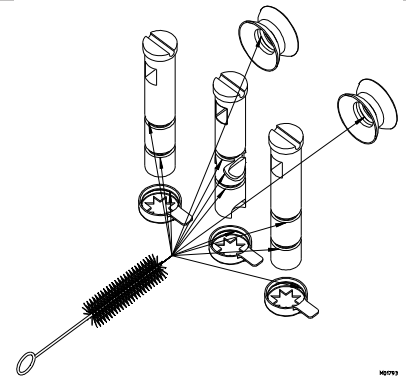

Figure 6-7 Clean O-ring grooves, seal and nozzle with brush.
- c. The shaft cup seals, washers, and O-rings, plunger O-ring grooves and nozzles, as shown in figure 6-7.